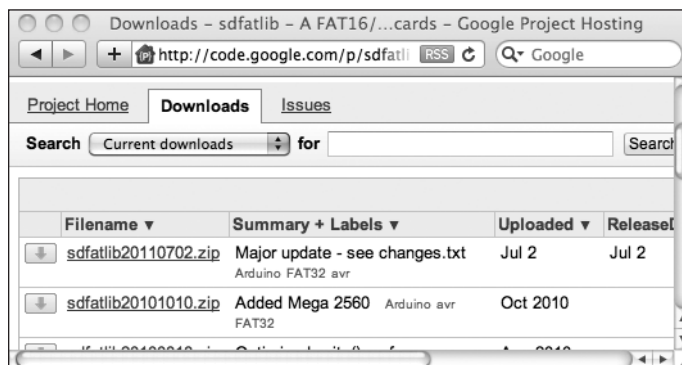

Figure 8-14: Library versions page
1. Download the latest file from <http://code.google.com/p/sdfatlib/downloads/list/>. Figure 8-14 shows this web page.